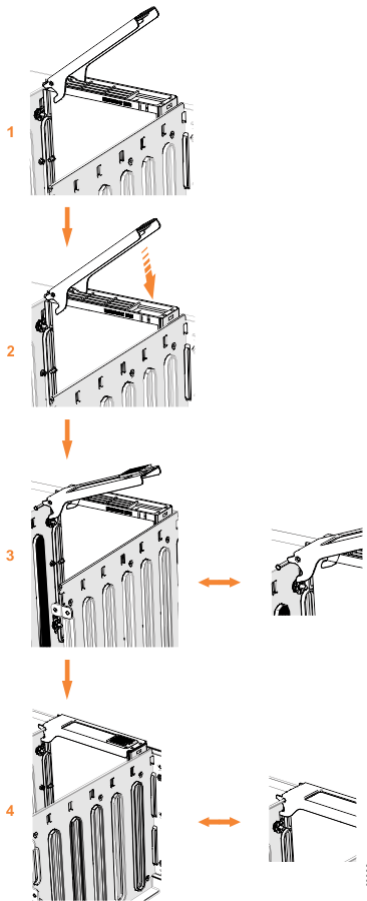

Figure 117. Replace the drive
14. Ensure that the drive handle (1 in Figure 117 on page 163) of the drive assembly is in the open (unlocked) position.
16. Lower the drive down, without pushing, until it stops and the bottom of the latch is aligned with the top of the partition. Ensure that the handle is not open more than 45 degrees from the drive carrier. (2 in Figure 117 on page 163). If the drive does not slide down easily then inform IBM remote technical support.
17. Rotate the handle down to lock the drive assembly into the chassis (3 in Figure 117 on page 163).
19. Ensure that the top toe of the latch is also fully engaged (4 in Figure 117 on page 163).